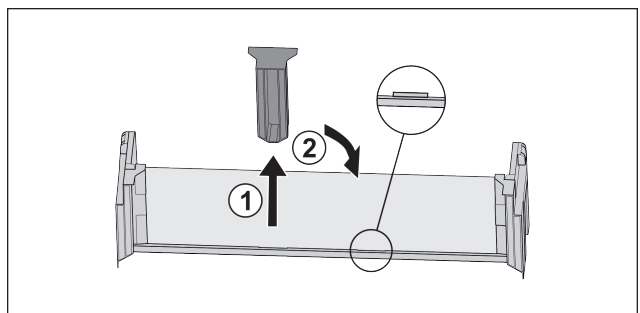

Fig. 22 \*
- ▶ Pull off the middle holder Fig. 22 (1).\*
- ▶ Insert the middle holder in the second position Fig. 22 (2).\*